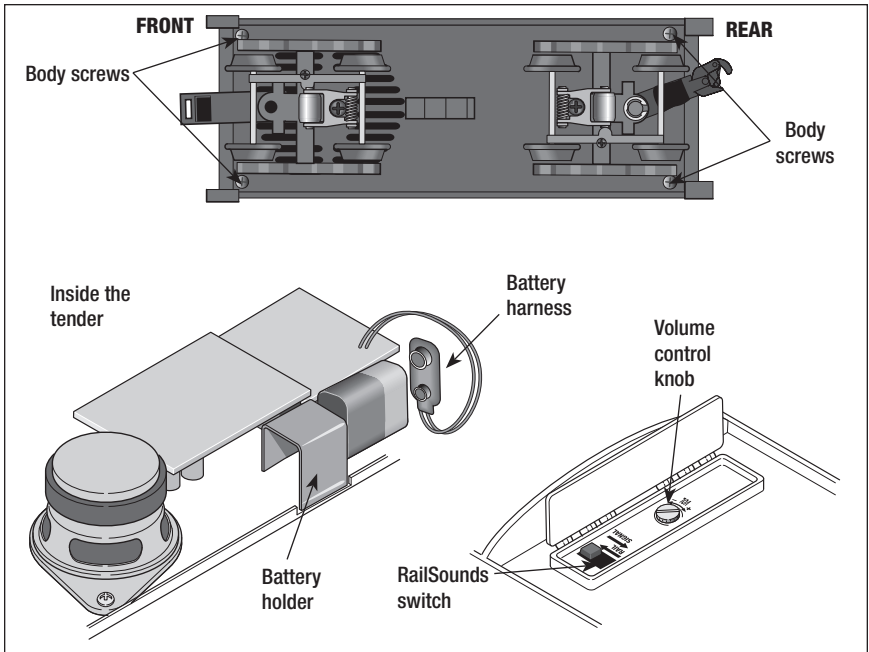

Figure 5. Installing the battery in the tender
Use the **HORN** and **BELL** buttons on your transformer to activate those features. Refer to page 28 if your transformer is not equipped with those buttons. Adjust the volume using the volume control knob located under the tender water hatch. Refer to Figure 5 on page 26.
**A**lthough the LEGACY RailSounds sound system is powered through the track, we recommend that you install a nine-volt alkaline battery in the tender to prevent the sound system from shutting down during track power interruptions (for example, at a switch or a dirty section of track). Follow these steps and refer to Figure 5 as you install the battery.
1. Remove the body screws from the underside of the tender. Refer to Figure 5 for the location of the screws.